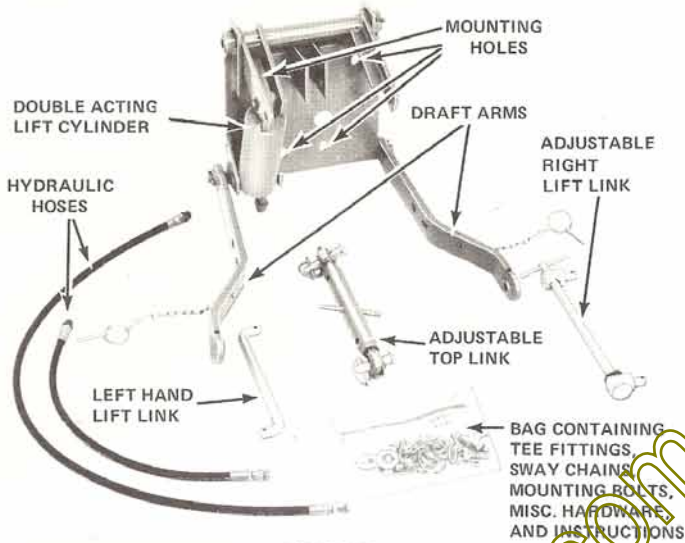

FIGURE 5
1. Identify and inspect 3-Point hitch assembly for completeness before beginning installation. Refer to Figures 5 or 6. Keep hydraulic hose ends capped to prevent dirty entry.